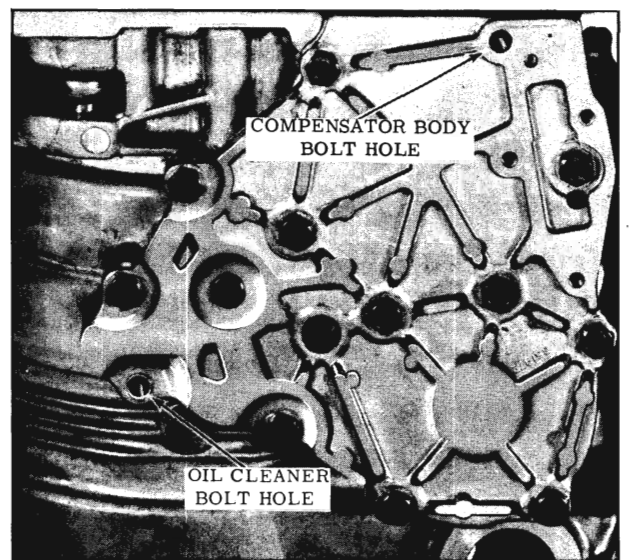

Fig. 3-122 Accumulator Cover Bolt Location
13. Install 8 servo and accumulator cover bolts. Leave the remaining bolts out. (Fig. 3-122) Torque 6 to 8 ft. lbs.